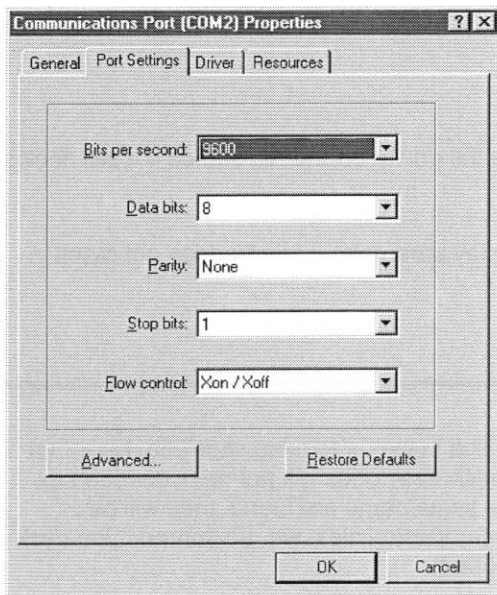

Figure 9-3: COM Port Properties Dialog Box
13. Next, select the Advanced button to bring up the advanced port settings dialog box shown in Figure 9-3.